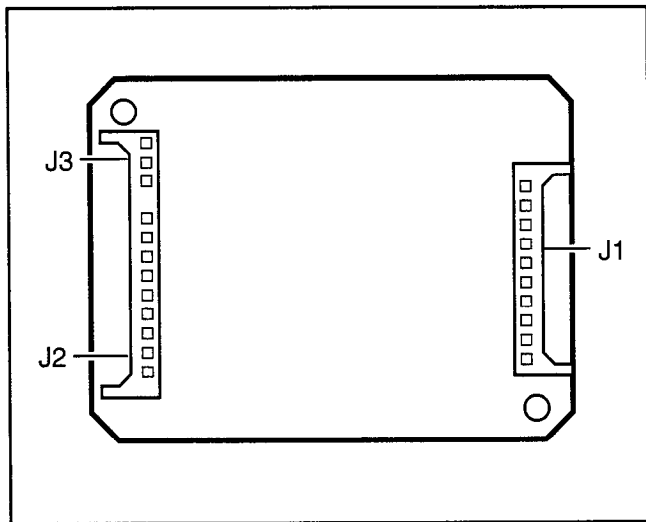

FIGURE 5-20
- 5) Mate IMDU connectors **J1**, **J2**, and **J3** with PIOU or PIOUS connectors **P1**, **P2**, and **P3** (refer to Figure 5-20).